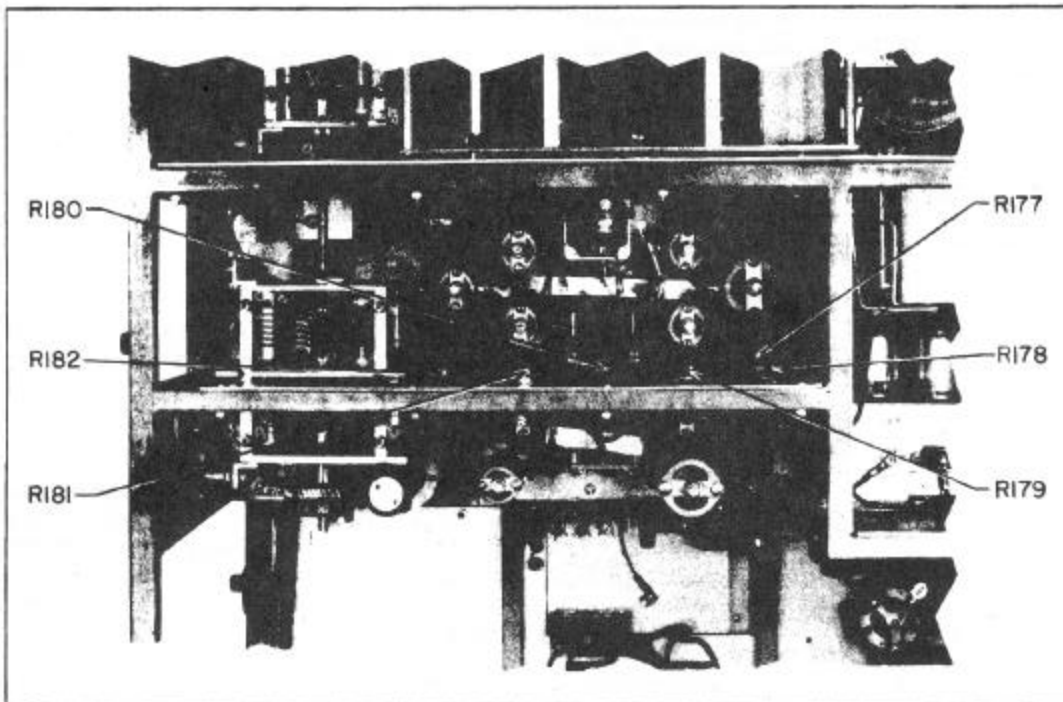

Figure 7-15—Carrier Power-Level Adjustments
(1) Tune BAND 1, 2000 kc, for maximum power output on CW operation.
(2) Connect one end of a wire to the vertical deflection plate of an oscilloscope and place the other end near the transmitter antenna post. This wire should not actually touch the antenna post.
(3) Turn on the "scope," using a 60-cycle sweep, and adjust the wire next to the antenna post until the scope pattern becomes high enough to measure easily. It may be necessary to form a pick-up loop at the end of the wire to obtain sufficient signal.
(4) Turn the CW-PHONE switch to PHONE and again measure the scope pattern height. This height should be one-half of that obtained on CW operation.
(5) Adjust R177, see figure 7-15, on the panel above the M.O. chamber at the back of the unit, until the PHONE pattern is one-half as high as the CW pattern.